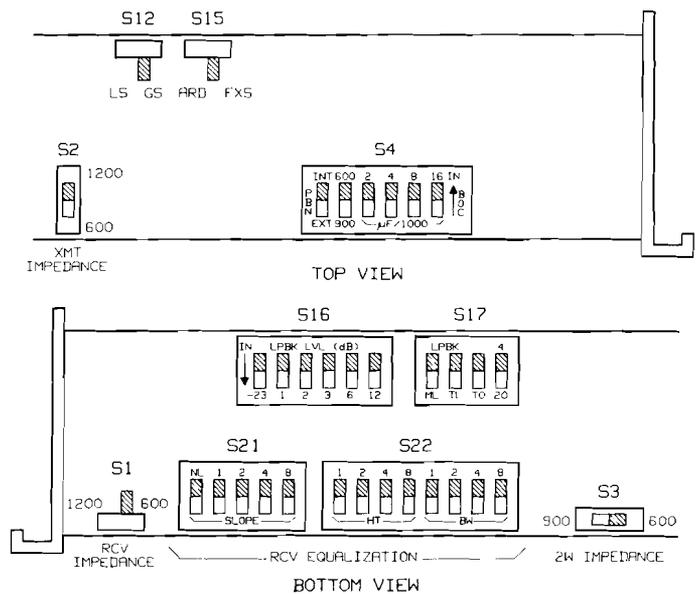

figure 4. 6163X option switch locations
3.06 A number of option switches must be set before the 6163X can be placed into service. These switches and their functions are described in paragraphs 3.07 through 3.12. The locations of the switches on the module's printed circuit board are shown in figure 4. Table 5 summarizes all switch options and provides a convenient checklist for optioning the module.